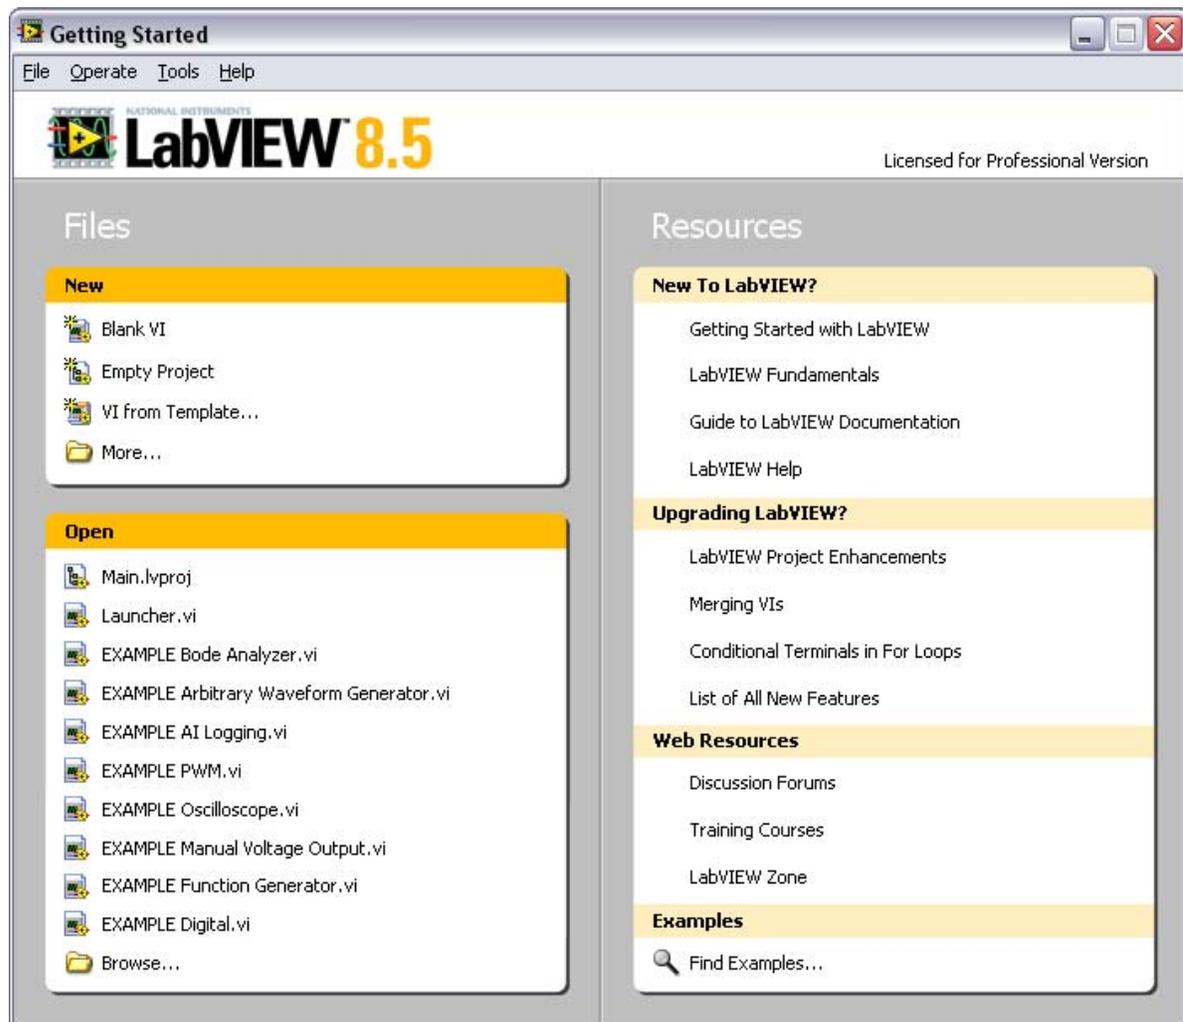
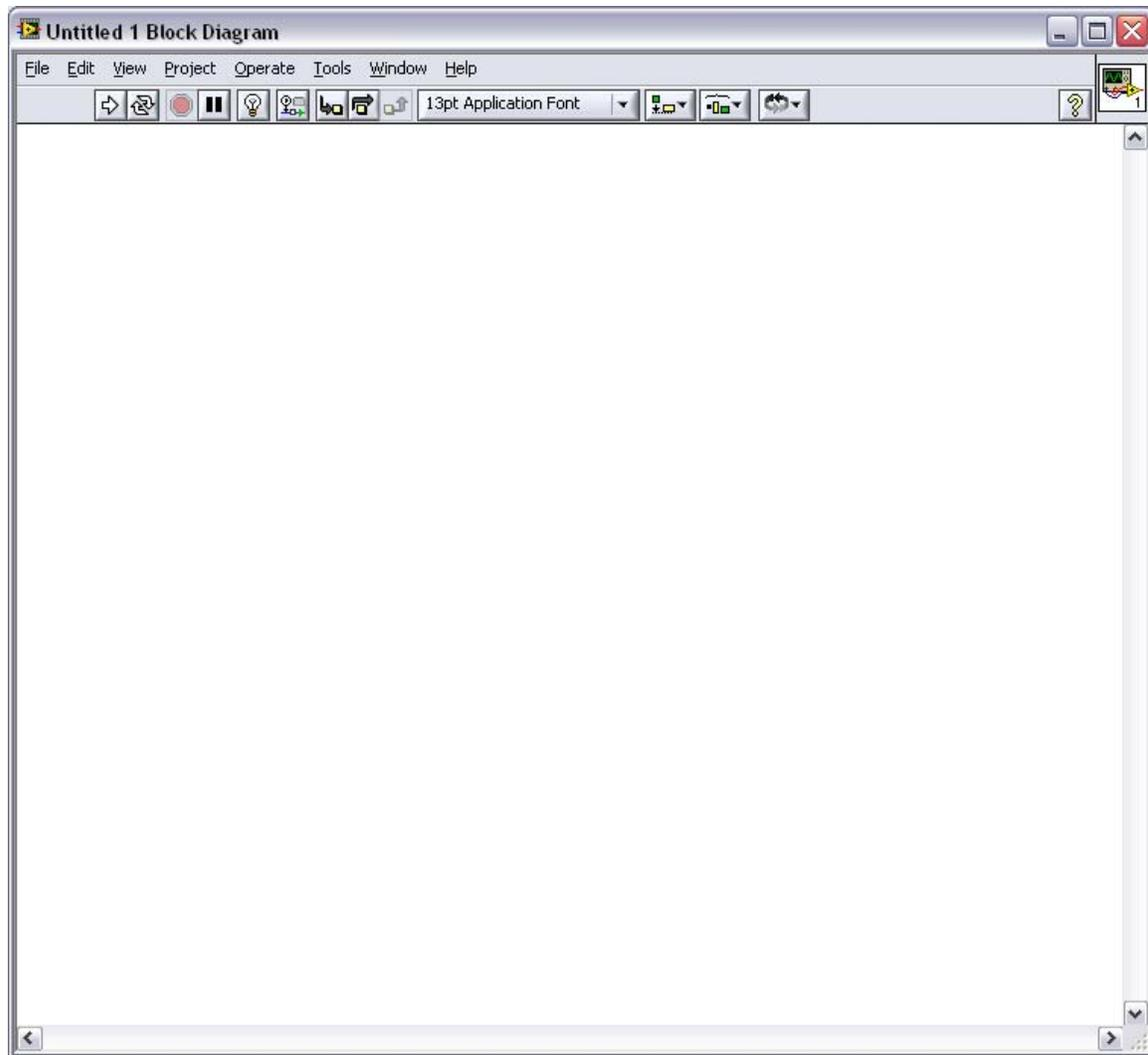

FIGURE 1 - LABVIEW "GETTING STARTED" SCREEN
FIGURE 2 – BLANK LABVIEW BLOCK DIAGRAM
1. To begin, open LabVIEW 8.5. Once the “Getting Started” screen has appeared (as shown in Figure 1), under the “New” menu select “Blank VI”. You are now presented with a blank front panel and behind it, an empty block diagram (Figure 2). The front panel is the user interface for your LabVIEW program, and the block diagram is where the program is built, using various types of program blocks.